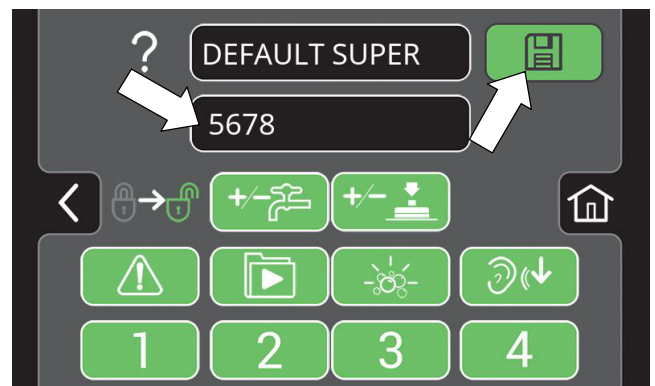

FIG. 175
5. Press the factory-assigned login code and enter a new login code (Figure 175). Press the flashing save button to save the new login code.